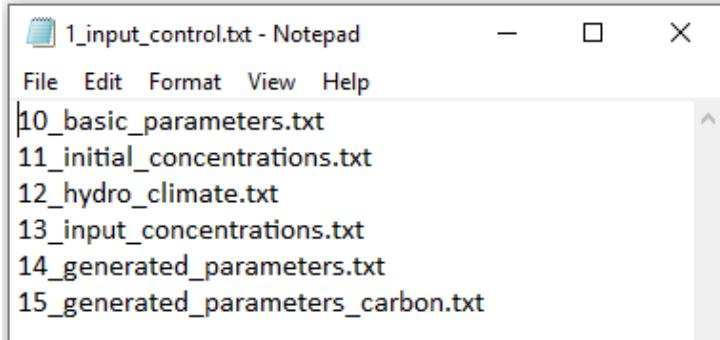

Figure 2.12
- ***1\_input\_control.txt***: This file acts as a master (control) file for running *WetQual* in which the names of the required input files needs to be provided. The name of the file “*1\_input\_control.txt*” should not be changed. The GUI requires the following six input files as shown in Figure 2.12.